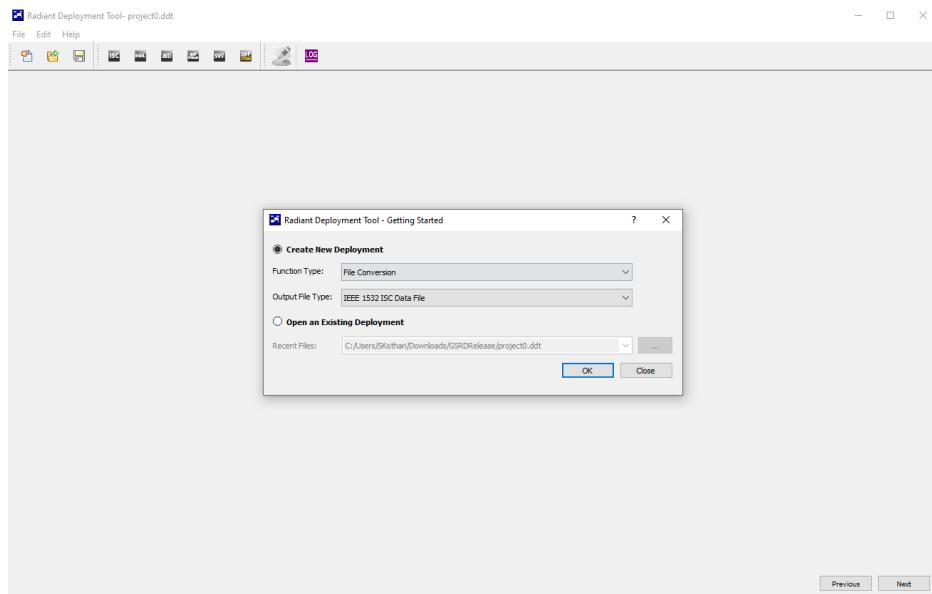

Figure 8.62.Deployment Tool Start window
4. This opens the Deployment Tool window as shown in Figure 8.62.